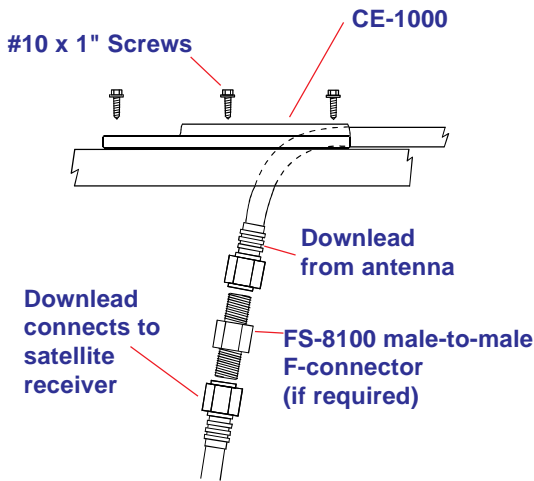

FIGURE 3A
STEP 8. Feed downlead through the roof using a Model CE-1000 cover plate (included with hardware), Figure 3A. **Weatherproof cable entry** by applying sealant under lip of roof-thru plate and where cable enters roof. Attach plate to roof with screws provided. Apply sealant over screws and around edge of roof-thru plate, making sure cable entry is sealed. Secure cables as necessary to prevent whipping. **DO NOT MAKE CONNECTION ON TOP OF ROOF unless there is no other option, it is very difficult to weatherproof outside connection. If downlead connection is made on top of roof make sure to weatherproof connection!**